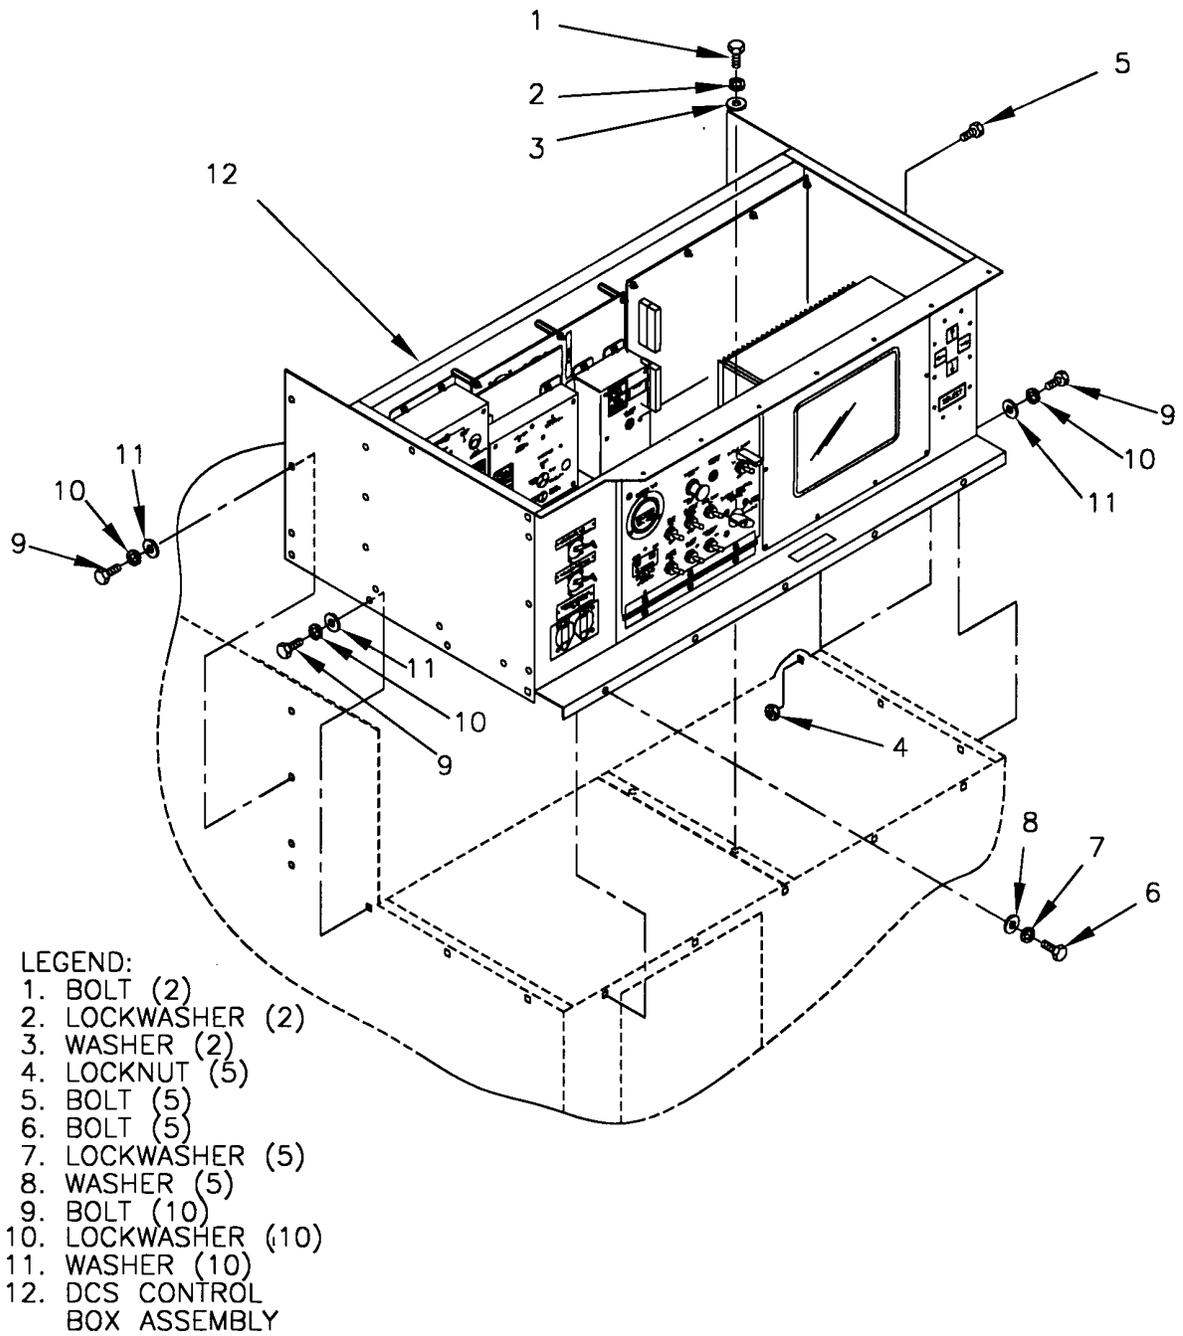

FIGURE 4-10. DCS CONTROL BOX
- (3) Remove DCS control box top panel, paragraph 4.7.2.
- (4) Remove bolts (1, Figure 4-10), lockwashers (2), and washers (3) securing DCS control box assembly (12) to top of output box assembly (Figure 5-3).
- (6) Remove locknuts (4, Figure 4-10) and bolts (5) securing DCS control box assembly (12) to generator set.
- (7) Remove bolts (6 and 9), lockwashers (7 and 10), washers (8 and 11).
- (8) Slide DCS control box forward, disconnect two wiring harness connectors at rear of DCS control box assembly (12, Figure 4-10) and remove DCS control box assembly (12) from generator set.
- (1) Install DCS control box assembly (12) to generator set by sliding DCS control box backward, and connecting two wiring harness connectors at rear of DCS control box assembly (12, Figure 4-10).
- (2) Secure DCS control box assembly (12) to generator set with bolts (6 and 9), lockwashers (7 and 10), and washers (8 and 11).
- (3) Install bolts (5) and locknuts (4).
- (5) Secure DCS control box assembly (12, Figure 4-10) to top of output box assembly with washers (3), lockwashers (2), and bolts (1).
- (6) Connect two wiring harness connectors at rear of DCS control box assembly (12).
- (7) Install DCS control box top panel, paragraph 4.7.2.